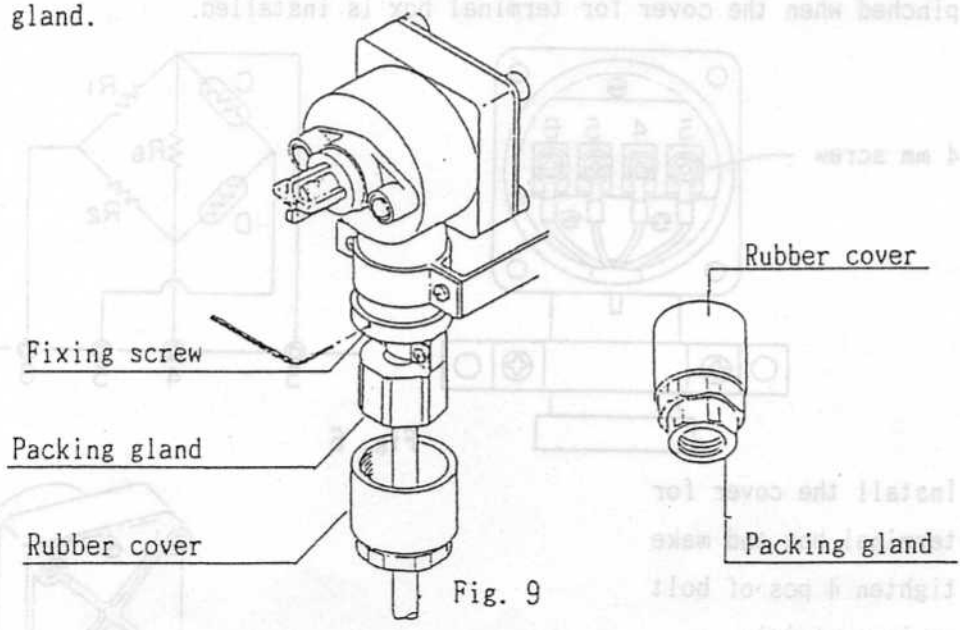

Fig. 9
- (6) After screwing the cable packing gland into the detector head, fix the packing gland with fixing screw of flange. (Refer to fig. 9)
- (7) Fix the cable after tightening the screw of cable clamp for the packing gland.